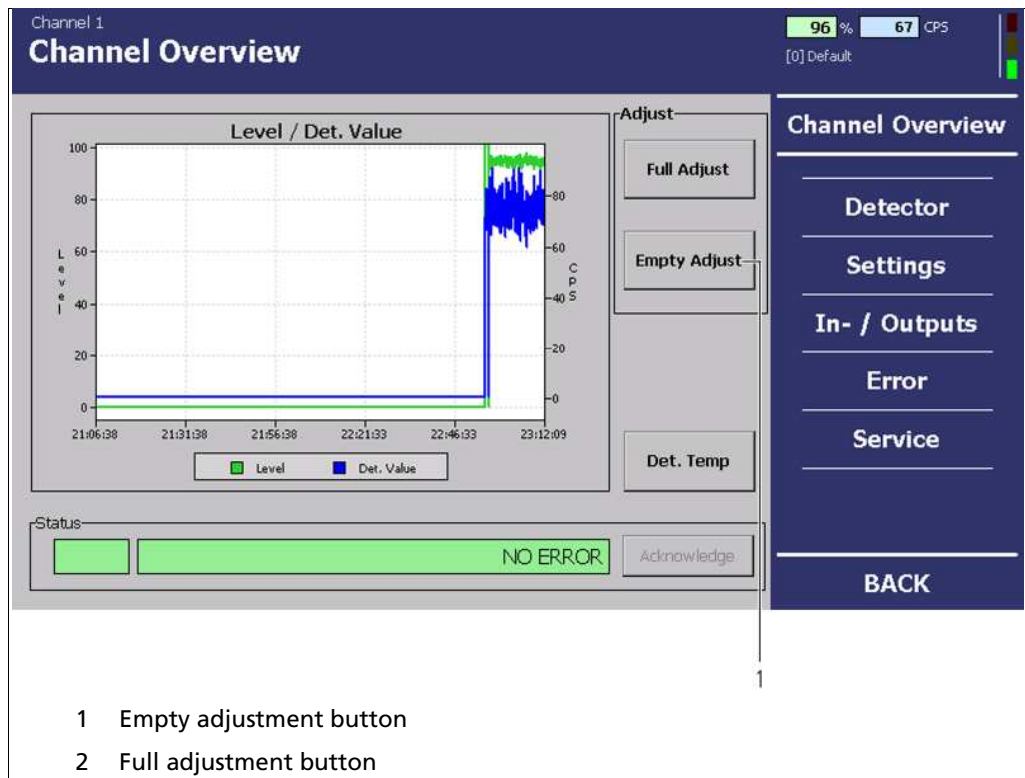

Fig. 52 Menu "Channel Overview", Adjust
⇒ The "Channel Overview" menu (Fig. 52) opens.
1. Click on <Empty Adjustment> to carry out an empty adjustment (reading in the 0% value) (Fig. 52, Pos. 1). Alternatively, you can close digital input 1. In this case, no confirmation message opens and the empty adjustment can be started directly from the casting platform.
2. If a full adjustment (100% value) is carried out, click on <Full Adjustment> (Fig. 52, Pos. 2). Alternatively, you can close digital input 2. In this case, no confirmation message opens and the empty adjustment can be started directly from the casting platform.